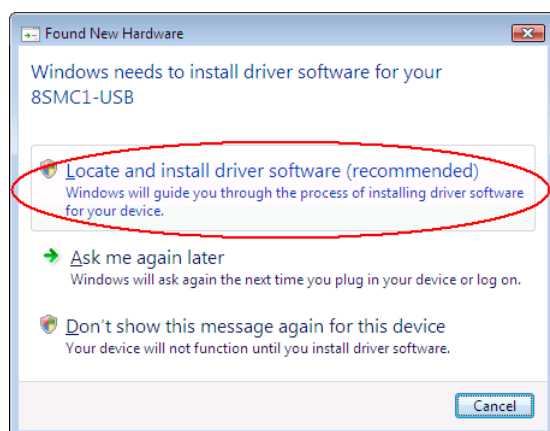

Figure 65. Hardware wizard 1st screen
- The first window of Hardware Wizard will be appeared (see Figure 65). Choose "Locate and install driver software".